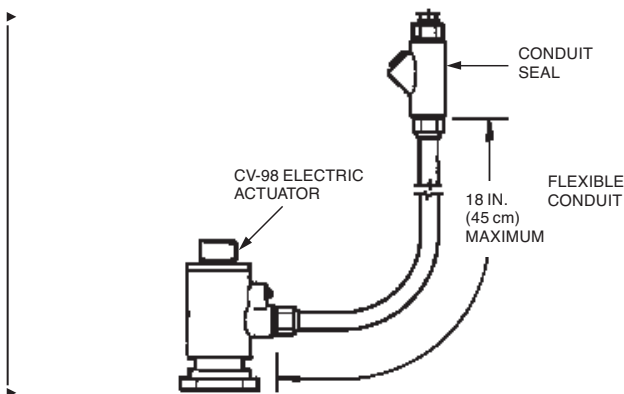

FIGURE 5
- When using the CV-98 electric actuator in hazardous locations, a conduit seal must be installed within 18 in. (45 cm) of the actuator conduit as shown in Figure 5. All wiring must be in accordance with Articles 500 through 503 of the National Electrical Code.